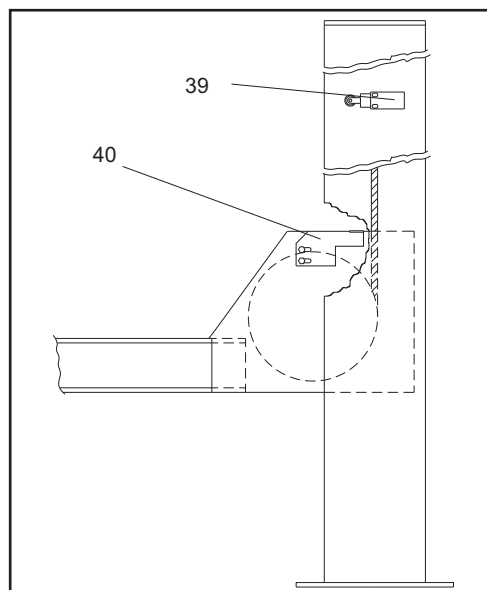

Fig.55
When the lift cycle is completed, make sure that the lifting limit switch (pos.39, fig.55) is working properly and if necessary, adjust using the cam (40) on the cross-piece.